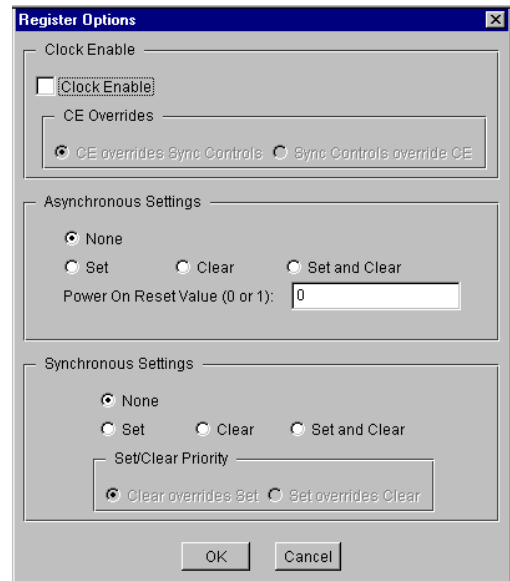

Figure 2: Gate Bit Register Options Parameterization Screen
- The main CORE Generator parameterization screen for this module is shown in Figure 2. The parameters are as follows:
- Register Options:** This button is only enabled when a registered output has been requested via the **Output Options**. Clicking on this button brings up the Register Options parameterization screen (see Figure 2).
The Register Options parameterization screen for this module is shown in Figure 2. The parameters are as follows: